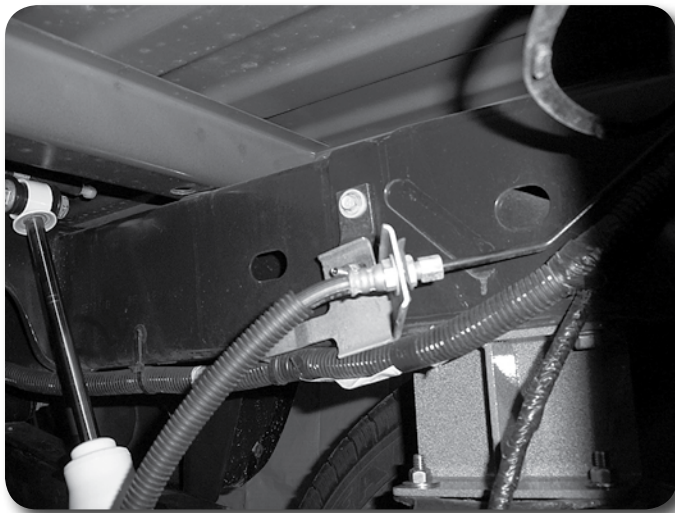

Figure 21
- 76. Install rear brakeline relocation bracket with factory bolt into frame and attach 1/4" nut and washer on new bracket. Figure 21